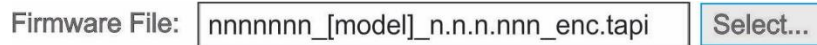

Figure 5. Firmware File Selection Field
9. The “Update Firmware on [model name]” window appears, showing instrument information and a Firmware File field (Figure 5). Click the Select... button, navigate to the location of the update file, and click the file name.